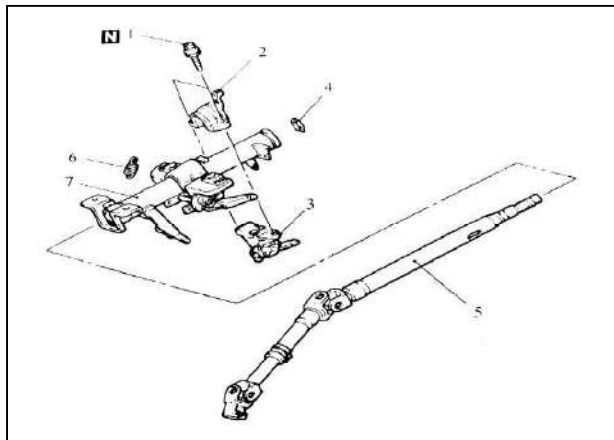

Fig 17-15
2.DISASSEMBLY AND REASSEMBLY(See fig 17-15)